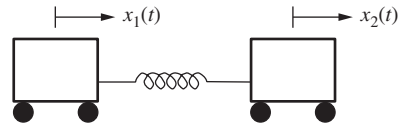

Figure P6.32 Two oscillating masses for problem P6-32.
- 6-32.** Two oscillating masses are connected by a spring as shown in Fig. P6.32. The positions of the masses in inches are given by $x_1(t) = 5\sqrt{2} \cos(2\pi t + \frac{\pi}{4})$ and $x_2(t) = 10 \cos(2\pi t)$, where t is in seconds.